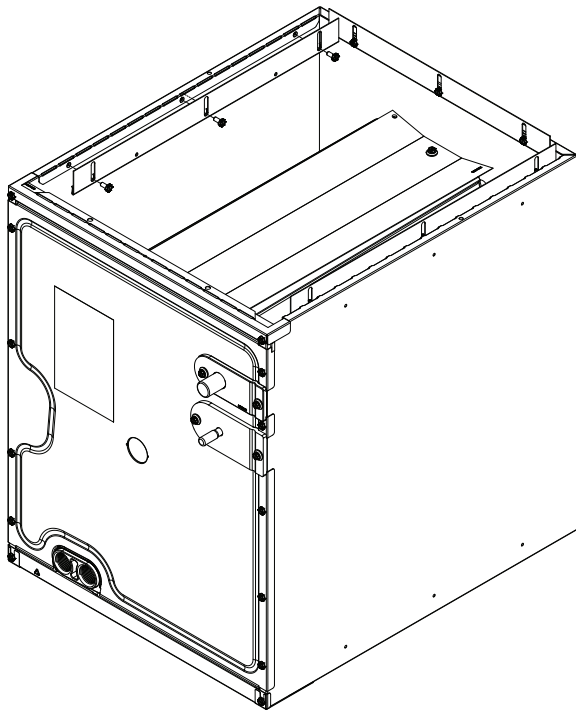

Figure 10
2. A duct flange kit can also be purchased from your distributor. (See Figure 10)